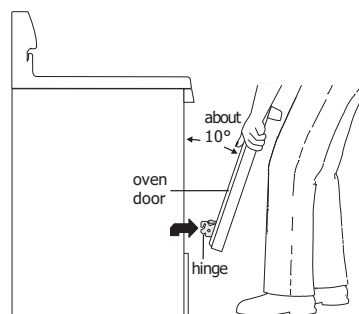

Figure 19: How to remove door
3. Firmly grasp both sides of oven door along the door sides (Do not use the oven door handle - Figure 19).
1. Firmly grasp both sides of oven door along the door sides (Do not use the oven door handle - Figure 19).